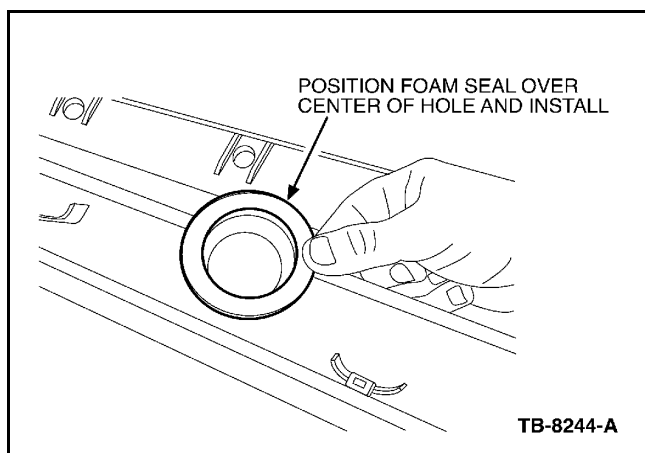

Figure 1 - Article 05-16-2
2. Remove the foam seal and discard (Figure 1).
4. Install a new foam seal (5W4Z-54021A46-A), centering the seal on the hole of the cowl panel grille (Figure 1).